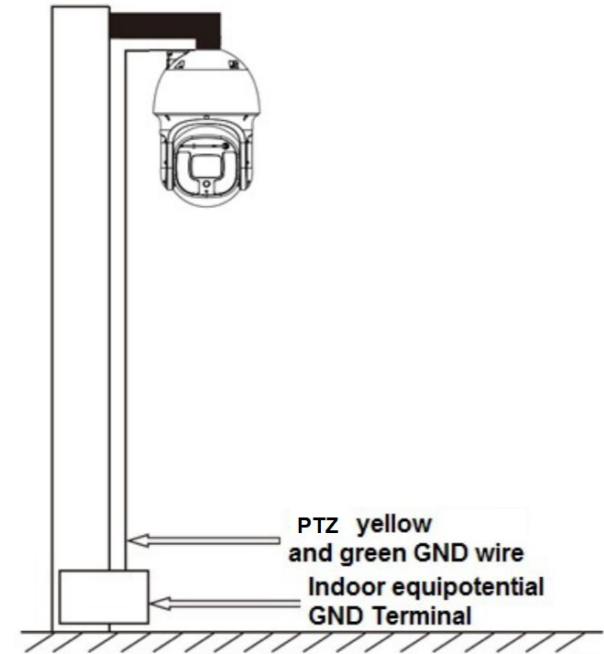

Figure 5-2
- For indoor usage, The yellow and green GND wire or GND screw of the speed dome should be reliably connected by several strands of copper wire with no less than 25mm² and indoor equipotential GND terminal. Please refer to Figure 5-2 for lightning proof installation mode.